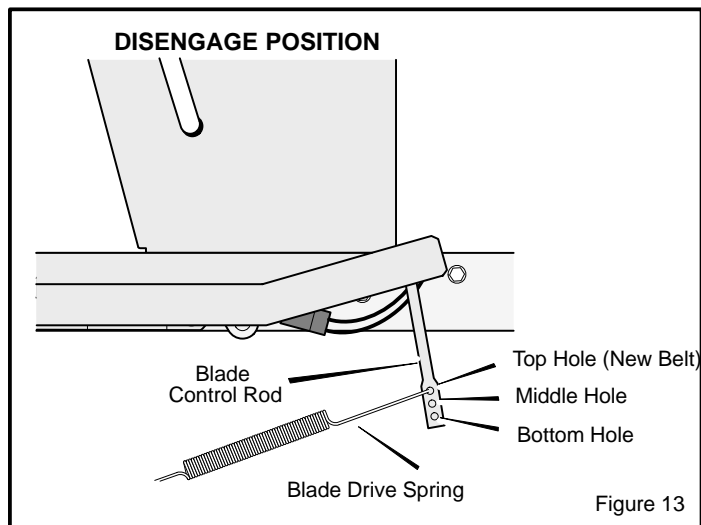

Figure 13
5. Disconnect the **blade drive spring** from the **blade control rod**. Move the **blade drive spring** to the *middle hole* (Figure 13). This will increase the tension on the **mower drive belt**.
12. If you replace the **mower drive belt**, move the **blade drive spring** to the *top hole* (Figure 13).